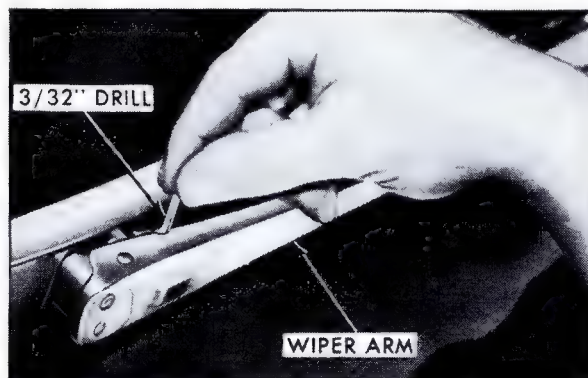

Fig. 12-27 Removing Wiper Arm
2. Lift wiper arm off windshield and insert a 3/32" drill (#43) in hole behind wiper arm, Fig. 12-27.
7. Pull up on wiper arm and remove 3/32" drill from hole in wiper arm assembly, Fig. 12-27. Release wiper arm and check alignment.